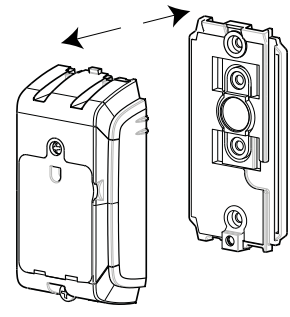

Figure 4 - Device and bracket separation
3. Separate the device from the bracket, as in Fig. 4.